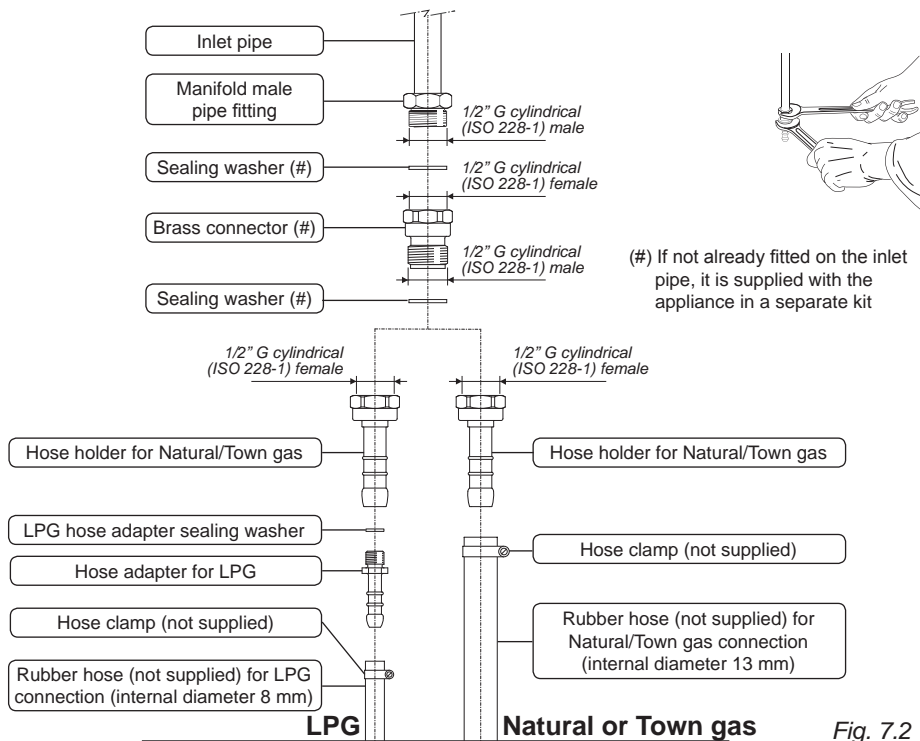

Fig. 7.2
1. If not already fitted, fit the Natural/Town gas hose holder on the inlet pipe, making sure that you place the sealing washer between them (as shown in fig. 7.2).
1. If not already fitted, fit the LPG hose holder on the inlet pipe, making sure that you place the sealing washer between them (as shown in fig. 7.2).
- use two spanners when fitting the parts (fig. 7.2).